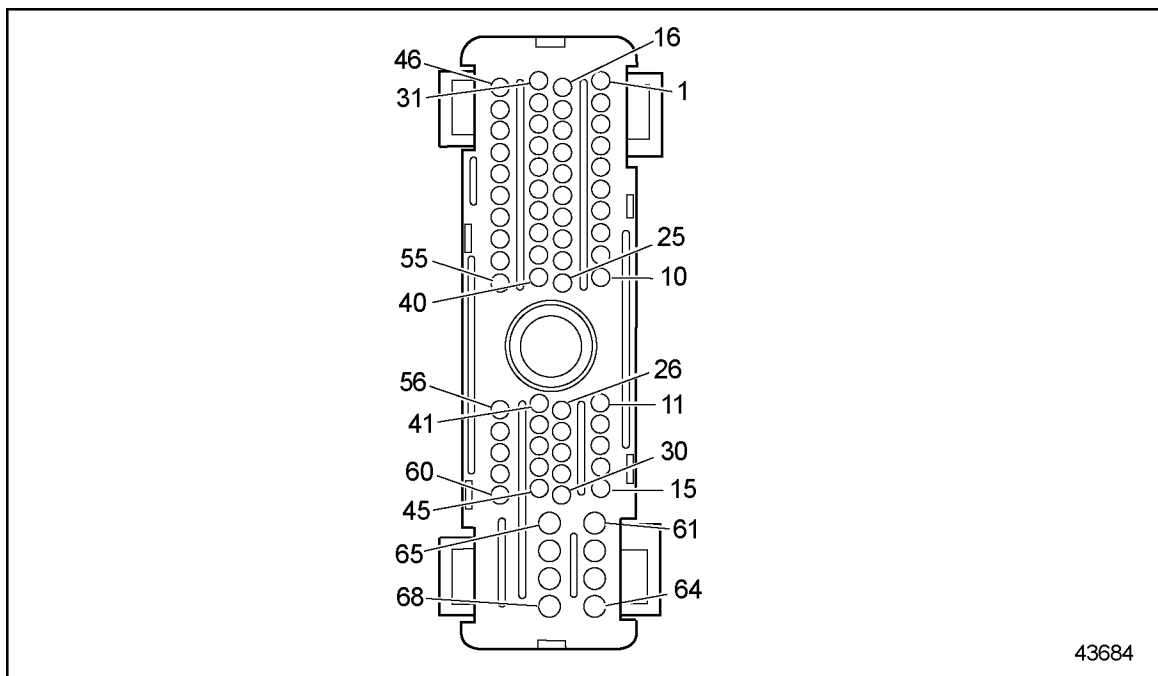

Figure 21-2 ECM/ECU Vehicle Interface Harness Connector
6. Measure resistance between sockets V-60 and V-14 on the vehicle harness connector. See Figure 21-2.
7. Inspect terminals at the VSG connectors (sensor side and harness side) for bent, corroded and unseated pins or sockets. See Figure 21-2.
2. Turn ignition ON. Measure voltage between V-14 and battery ground. See Figure 21-2.